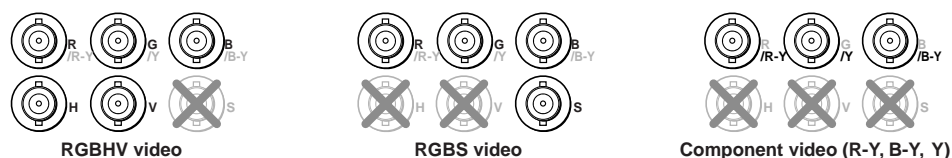

Figure 2-4 — BNC output connections for RGBHV, RGBS, and component video
- ⑤ **RGB/HD R-Y, B-Y, Y Output BNC connectors** — Connect an RGB video or HD component video display to these female BNC connectors (figure 2-4).